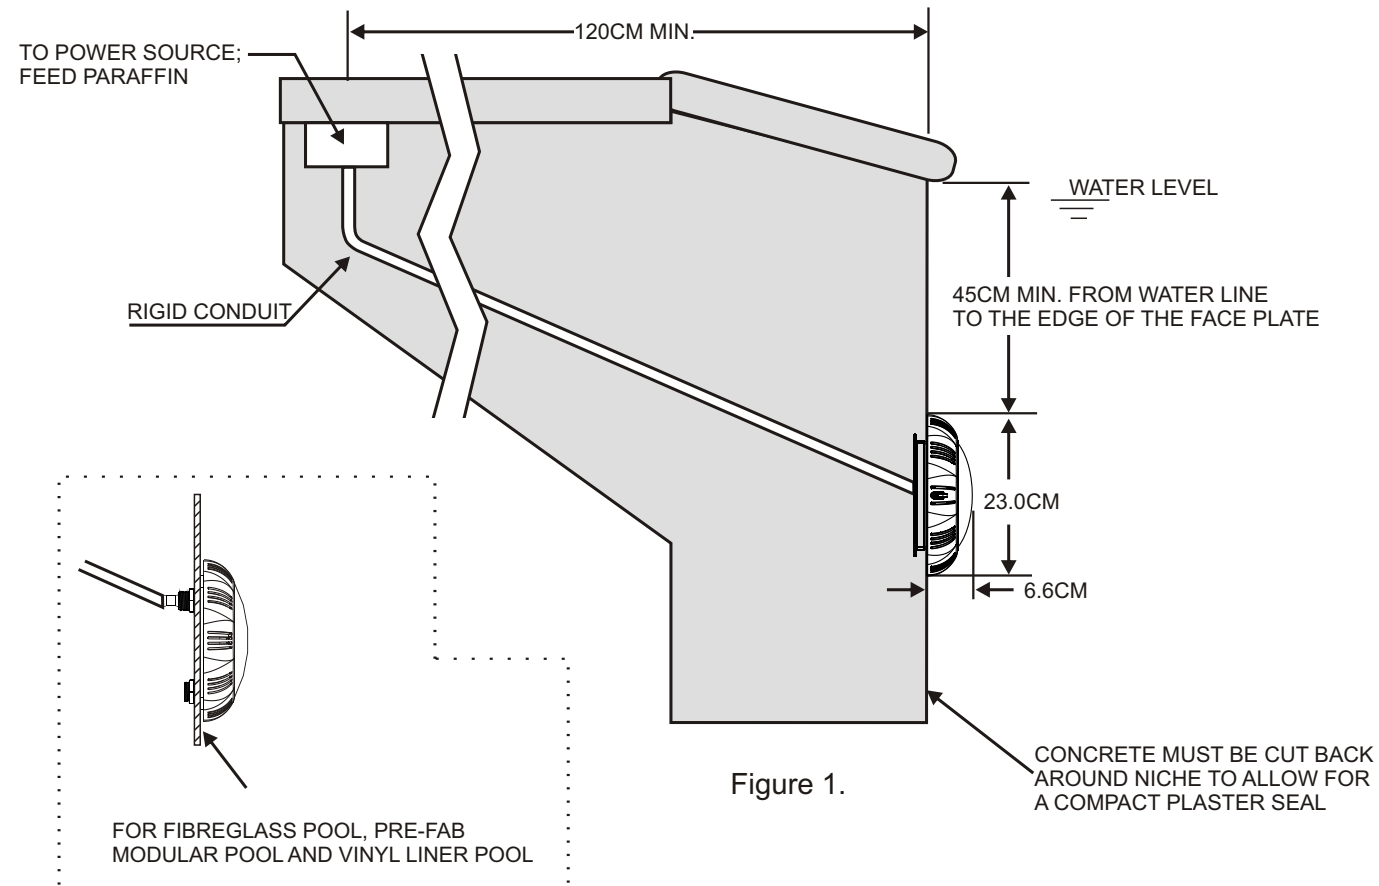

Figure 1.
A. Preparatory steps which must be completed by the electrician before light is installed, see Figure 1.
- a. The junction box, or the low voltage transformer for 12 volt Underwater Light model is to be located at least 120CM from the edge of the pool, see Figure 1.
- c. The mounting bracket must be properly installed so that the top edge of the Underwater Light lens is at least 45CM below the surface of the water in the pool, see Figure 1.
1. Locate position on a vertical wall where light is to be installed. The edge of the face plate must be 45CM below normal water level, see Figure 1.